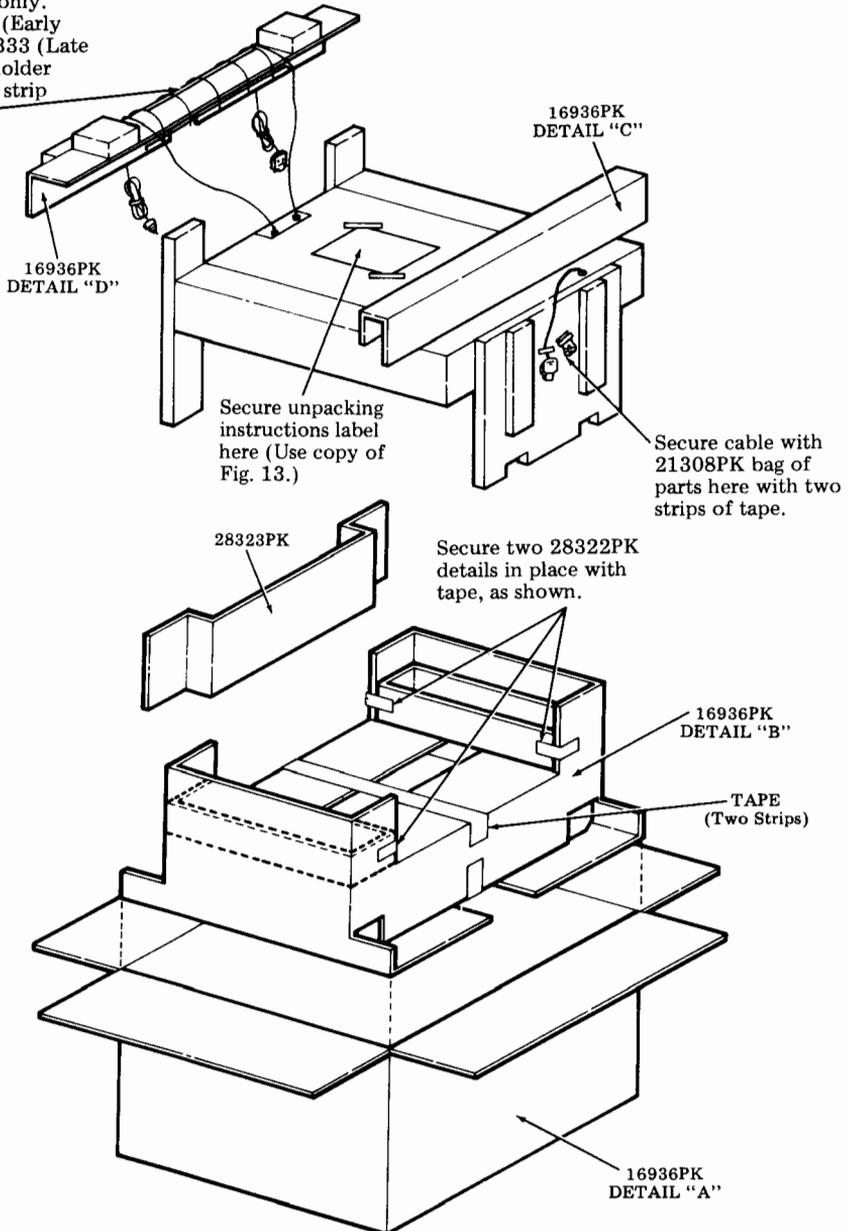

Fig. 12
4.18 Fold the flaps of 16936PK Detail "B" over the KP set and tightly secure with two strips of tape. See Fig. 12.
4.19 Position a 28322PK Detail on both ends of the 16936PK Detail "B" tube and secure the detail to the tube with two strips of tape. See Fig. 12.
4.21 Place prepacked KP set assembly in carton. Form a 28323PK Detail and position in carton as shown in Fig. 12.
4.22 Place two 430332 metal clips and two 430331 plastic clips in a 21308PK muslin bag and secure to the loose end of the SSI cable. Secure cable to the top of the cabinet with two strips of tape. See Fig. 12.
4.23 Place a 23461PK plastic bag over the pedestal. Place the pedestal front side down in carton with the legs positioned in the void formed by the 28323PK Detail. See Fig. 12.
4.24 Drape remaining loose cables on the back panel of the cabinet. Form and position a 16936PK Detail "D" against the bottom and rear of the cabinet. See Fig. 12.
4.25 Sprocket Feed only. Position the 430318 paper holder on the 16936PK Detail "D" as shown in Fig. 12, to the Detail with a strip of tape.
4.26 Individually coil the two cables leaving about 12 inches of leader. Secure the coils with a 50136PK twist tie. Position the cables as shown in Fig. 12.